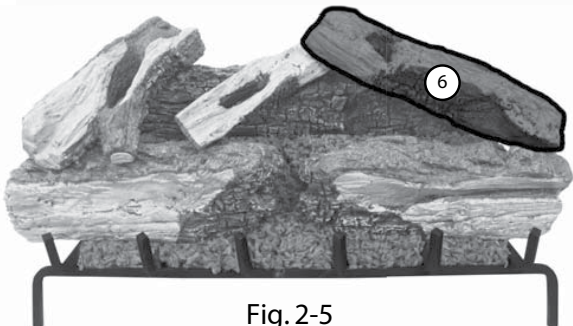

Fig. 2-5
5. Position the middle right log #6 on the right side of the log set, resting on logs #3 and #5 as shown in Fig. 2-5.